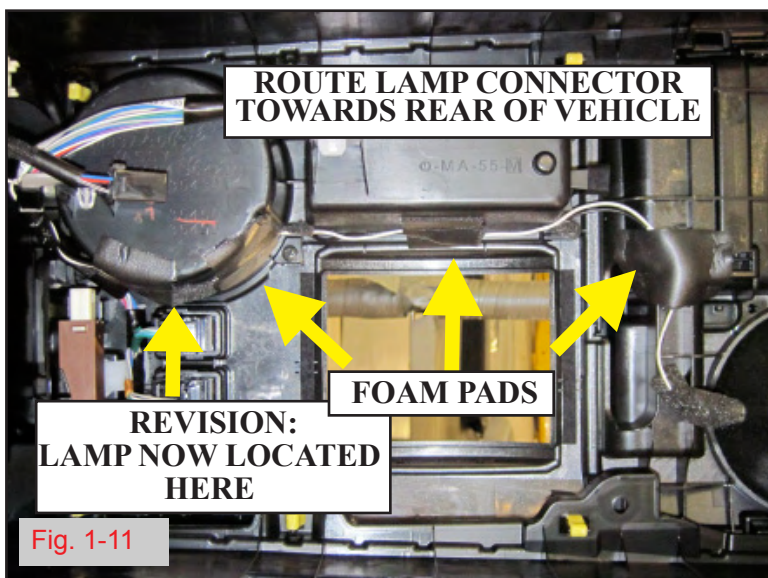

Fig. 1-11
- i. Secure lamp harness with foam pads. (Fig. 1-11)